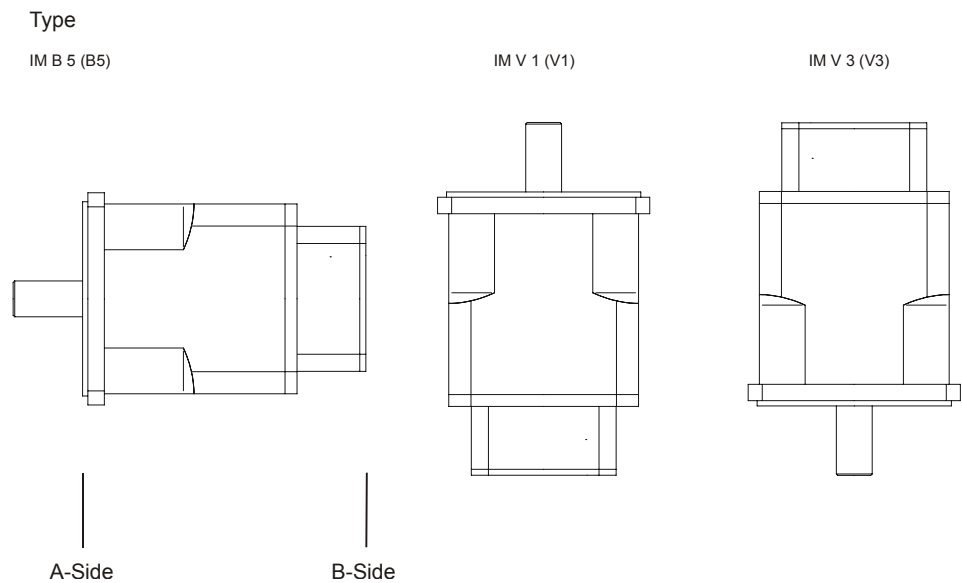

Fig. 2: Mounting Positions of JL6 Motors
- Protect the motors against liquids soaking into the bearing in case the shaft end is installed upwards (design V1); refer to Fig. 2.
Installation	<ul style="list-style-type: none"> • Horizontal position (B5) to Fig. 2 on Page 21 • If the module is operated at an altitude higher than 1,000 m above sea level, derating will be required. • A clearance of at least 10 cm above and below the motor must be maintained to provide proper air circulation.